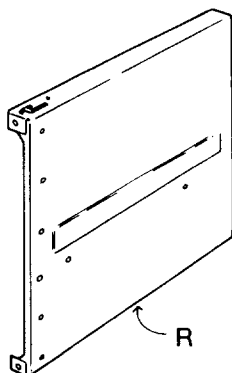

Fig. 49
10. Find the *right* and *left side panels*. Look carefully to find the "R" and "L" stamped in the metal near the center of the wide edge. These stamps are the easiest way to tell the *right side panel* from the *left*. (Figure 49)